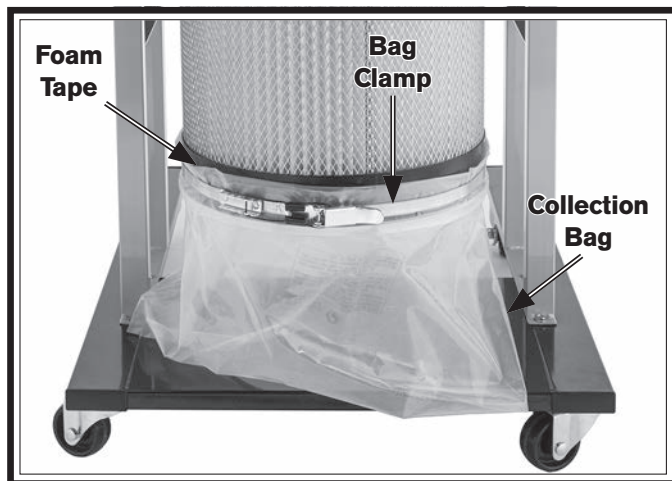

Figure 25. Filter collection bag clamped to filter.
18. Apply $\frac{3}{4}$ " foam tape to bottom rim of canister filter (see **Figure 25**).
19. Attach collection bag to canister filter with bag clamp (see **Figure 25**).